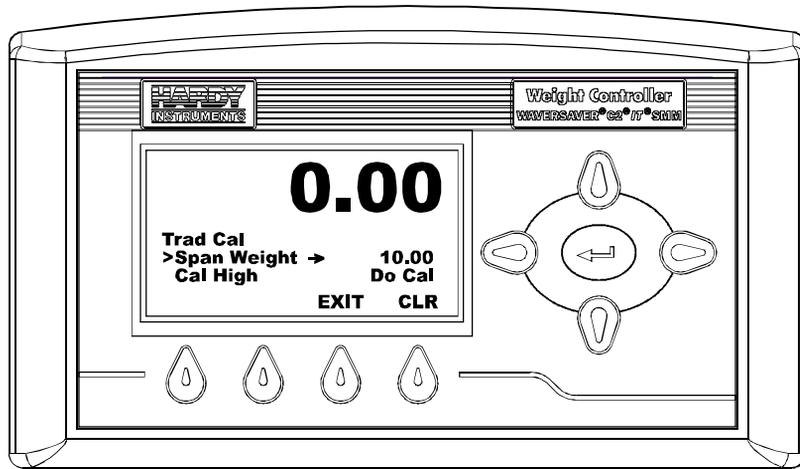

FIG. 314 TRAD CAL MENU/SELECTING SPAN WEIGHT
Step 12. Press the Down Arrow button until the cursor is in front of Span Weight. (See Fig. 314)